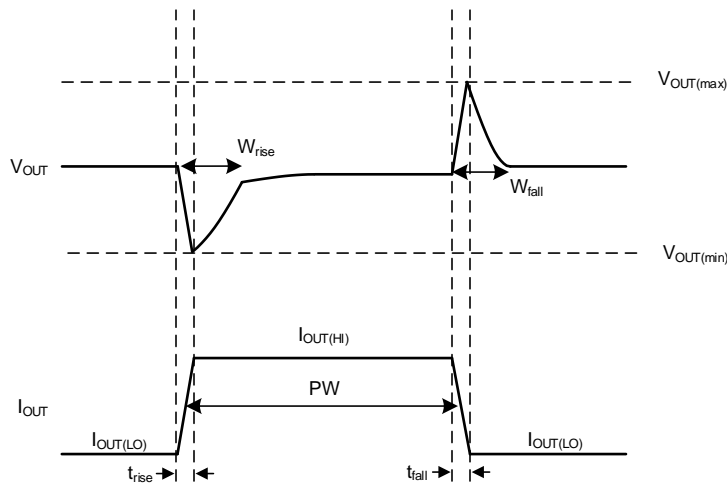

Figure 56. Simplified Load Transient Waveform
The transient response peaks ($V_{OUT(max)}$ and $V_{OUT(min)}$) are improved by using more output capacitance; however, doing so slows down the recovery time (W_{rise} and W_{fall}). Figure 56 shows these parameters during a load transient, with a given pulse duration (PW) and current levels ($I_{OUT(LO)}$ and $I_{OUT(HI)}$).